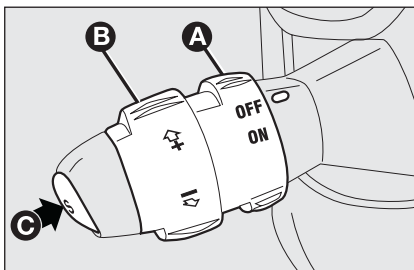

fig. 54
Turn knurled ring **A**-fig. 54 to **ON**.
- ☐ turn the knurled ring **A**-fig. 54 to **ON** and press the accelerator pedal to the required speed;
- ☐ press button **C-fig. 54**.
- ☐ turning the knurled ring **B-fig. 54** temporarily to (+).
- ☐ keeping the knurled ring **B-fig. 54** to (–) until reaching the new speed which will be memorised automatically.
Turn the knurled ring **A-fig. 54** to **OFF** or the ignition key to **STOP**. The device is automatically deactivated also in one of the following cases:
In the event of device malfunction or failure, turn the knurled ring A-fig. 54 to OFF and contact a Fiat Dealership after checking the protection fuse integrity.